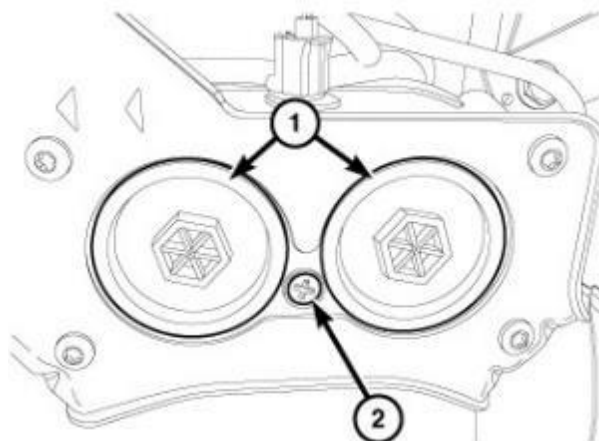

Figure 49 – Drain Plug
91. Loosen the drain plug (2) and drain the diesel fuel into a suitable container (Figure 49).
92. Securely tighten the drain plug (2).